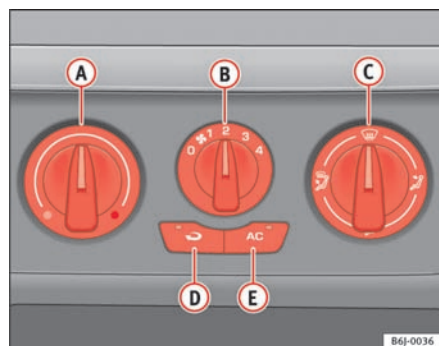

Fig. 85 On the dash panel: Heater controls
- Turn the temperature selector ⇒ fig. 85 **A** anti-clockwise.
- Turn the temperature selector ⇒ fig. 85 **A** clockwise to select the required temperature.
- Turn the temperature selector ⇒ fig. 85 **A** clockwise to reach the maximum temperature.
- Turn the temperature selector ⇒ fig. 85 **A** to the heating zone.
- Close outlets ③
- Open and turn outlets ④ towards side windows